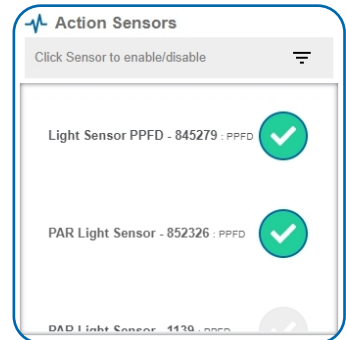

Figure 31
- By default, the sensor(s) will not be assigned to the action conditions you've just set. To assign a sensor, find the device(s) you want to designate for this action and select. Selected sensor boxes will turn green when activated. Choose the sensor box again to unassign the sensor from the action. See Figure 31.